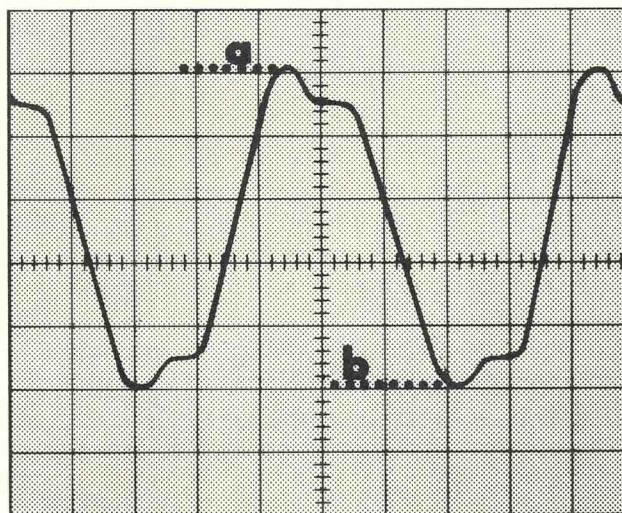

Fig. 2-3. Measurement of peak-to-peak signal amplitude.
In measuring signal amplitudes it is important to remember that the width of the trace may be an appreciable part of the overall measurement. This is particularly true when measuring signals of small amplitude. All measurements should be consistently made from the same part of the trace--the top, center or bottom. If the center of the trace is used for one reading, it should be used for all subsequent readings. Notice that points "a" and "b" in Figure 2-3 correspond to the center of the trace.
5. The final number is the voltage difference between the maximum and minimum peaks of the input signal.  $\text{DEFLECTION} \times \text{VOLTS/CM} \times \text{ATTENUATION} = \text{VOLTAGE}$ . For example, in Figure 2-3, the vertical deflection between "a" and "b" is 4.0 cm. If the AC-DC switch is at AC, the VOLTS/CM switch at .5 (black numbers), and the signal is applied through a 10X probe, the voltage calculation would be:  $(4.0 \text{ cm}) \times (0.5 \text{ VOLTS/CM}) \times (10) = 20.0 \text{ volts}$ .